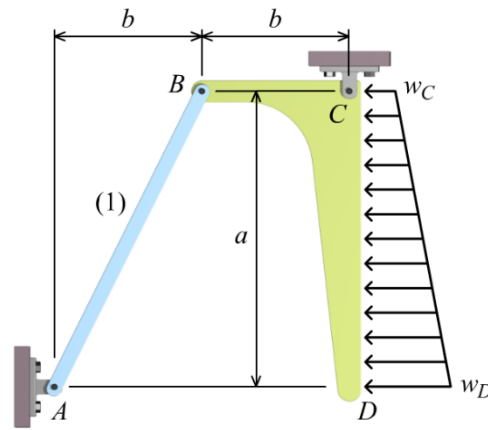

FIGURE P1.9
P1.9 Determine the normal stress in bar (1) for the mechanism shown in Figure P1.9. The area of bar (1) is 2,600 mm². The distributed load intensities are $w_C = 12$ kN/m and $w_D = 30$ kN/m. Use the following dimensions: $a = 7.5$ m and $b = 3.0$ m.